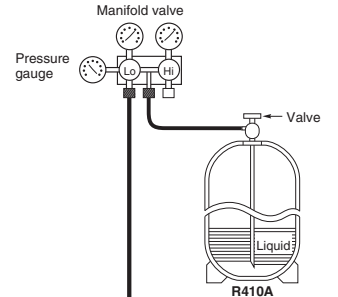

Fig. 6-5
- Charging additional refrigerant (calculated from the liquid tube length as shown in Section 1-8 "Additional Refrigerant Charge") using the liquid tube service valve. (Fig. 6-5)